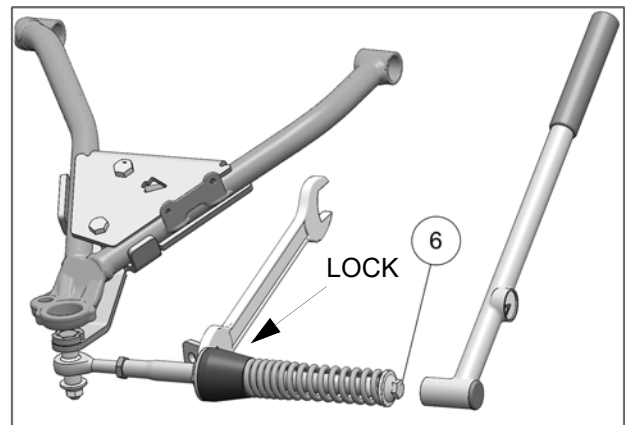

Fig. 20
- Verify that spring assembly bolt (6) is tightened to the recommended torque specification: 75 Nm [55 lb•ft]. Make sure to lock in position, the large nut in front of the rubber cone damper. Refer to Fig. 20